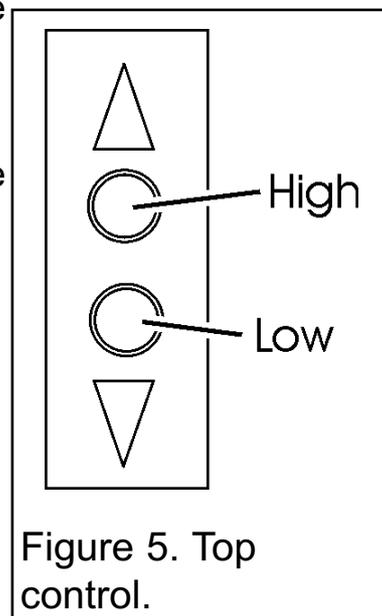

Figure 5. Top control.
1. Keep the pilot burner at the "main burner on" position. Check the full range of main burner heat settings using the Top Control. In order to vary the flame effect between High and Low positions, press, and keep depressed, either the High button, or the Low button as appropriate (See figure 5).
1. Allow the appliance to warm up, (for at least fifteen minutes) in the fully aerated position, with the aeration control lever pushed in to the locked position (See figure 5, & number 6 in figure 4).